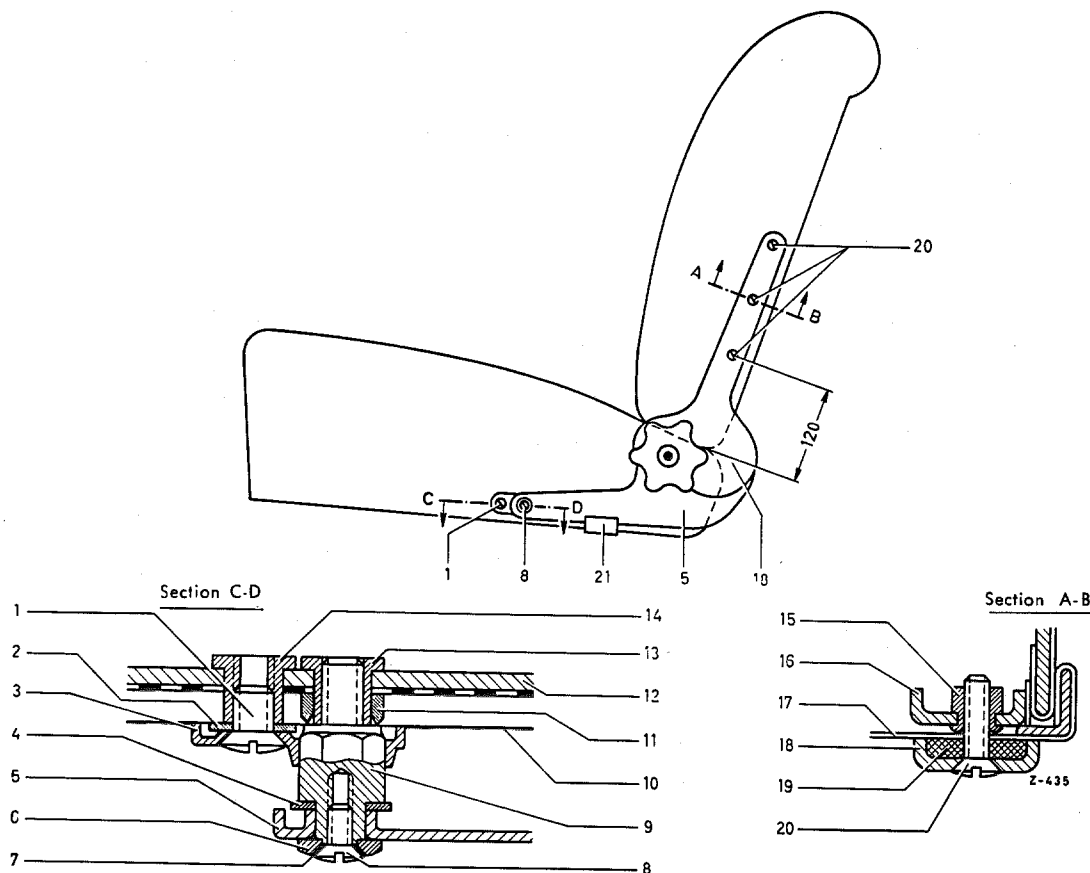

Fig. 91 — 3/1
The seat-back fittings of the individual seats with or without reclining-seat fittings are fixed to the front end of the back rail (5) in the pivot pin (9) (see Fig. 91 — 3/1). The pivot pin (9) is secured in its position by an escutcheon (3). On older-type seats a thrust ring with two plane faces is installed between the pivot pin and the seat frame. The leatherette cover at the side of the seat is held between the thrust ring and the pivot pin. When the pivot pin is tightened, the leatherette can turn with the pin and form spiral folds. It is for this reason that sometimes the pivot pin is not fully tightened through no fault of the mechanic, so that as a consequence it is subject to bending instead of to shearing stress.
For this reason, the thrust ring has been replaced by a new thrust ring (11) with cutting edge (see Fig. 91 — 3/1). This thrust ring (11) should be installed in such a way that the cutting edge under the leatherette cover (10) points toward the outside. When the pivot pin (9) is tightened, the thrust ring cuts through the leatherette cover. The pivot pin (9) can then be tightened to make metallic contact with the cutting edge of the thrust ring (11).